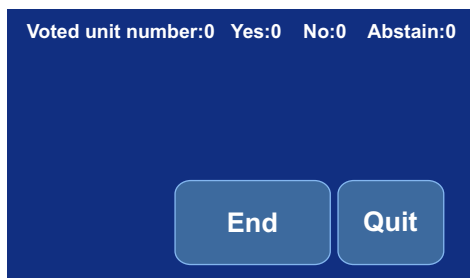

Figure 4.57
- Figure 4.57 and 4.58 show the results of the vote.